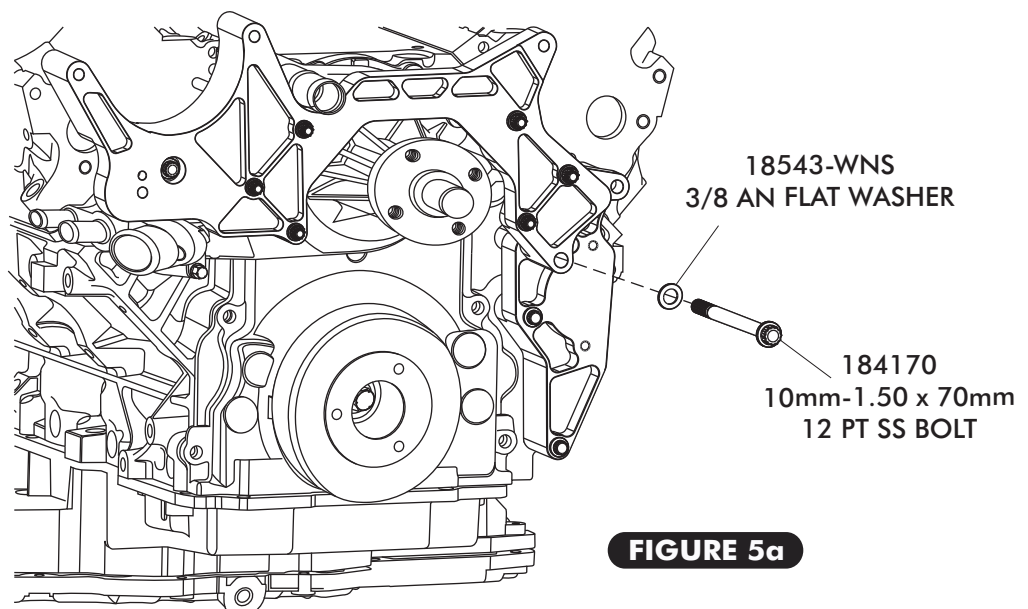

FIGURE 5a
- ❑ INSTALL A 10mm-1.50 x 70mm 12 PT SS BOLT AND A 3/8 AN FLAT WASHER THROUGH MAIN BRACKET AND SUPPORT BRACKET AS SHOWN IN FIGURE 5a BELOW.